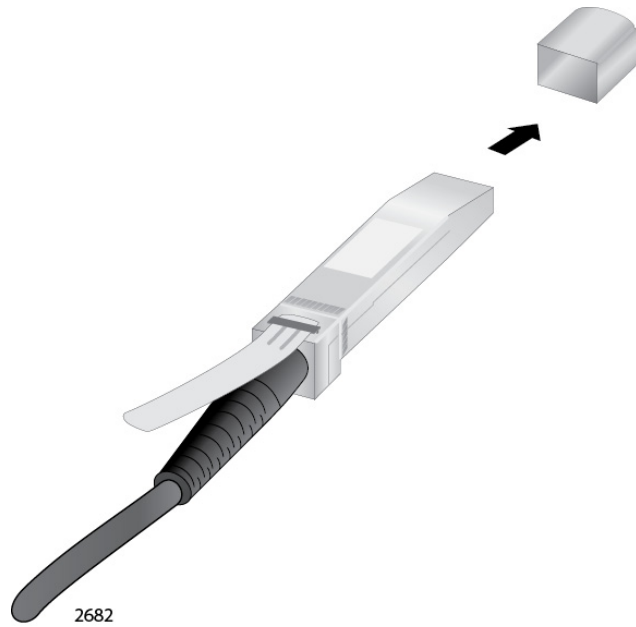

Figure 57. Removing the Dust Cover from the AT-StackXS/1.0 Transceiver
3. Remove the dust cap from one end of the transceiver, as shown in Figure 57 on page 97.